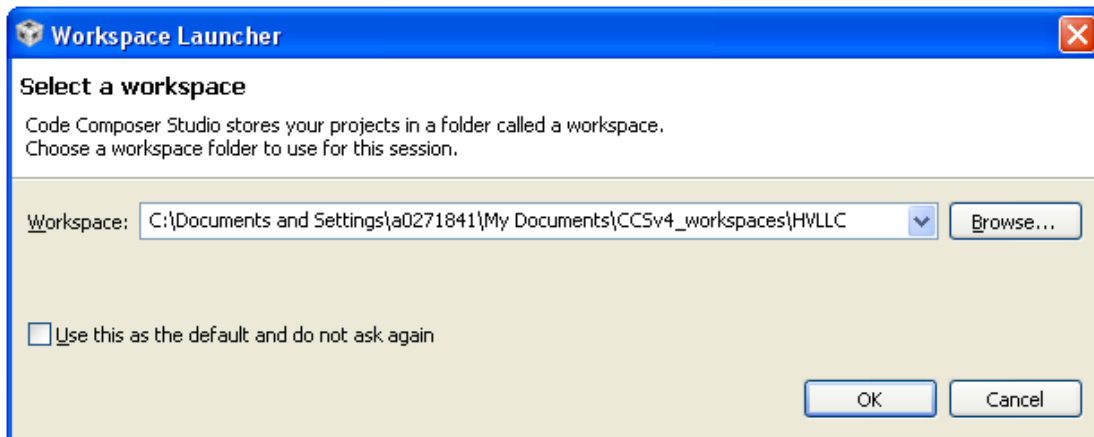

Figure 4. Workspace Launcher
2. Once Code Composer Studio opens, the workspace launcher may appear that would ask to select a workspace location, (note that workspace is a location on the hard drive where all the user settings for the IDE are saved (for example, which projects are open, what configuration is selected, where they are saved, and so forth). This can be anywhere on the disk, the location shown in Figure 4 is just for reference. Also note that if this is not your first-time running Code Composer this dialog may not appear.